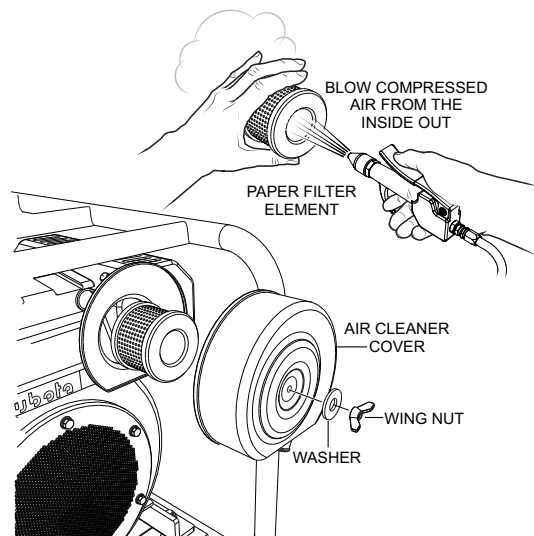

Figure 13. Engine Air Cleaner
1. Loosen the wing nut and detach the cover of the air cleaner shown in Figure 13.
2. Tap the element (Figure 13) several times on a hard surface to remove dirt, or blow compressed air [not exceeding 30 psi (207 kPa, 2.1 kgf/cm²)] through the element.